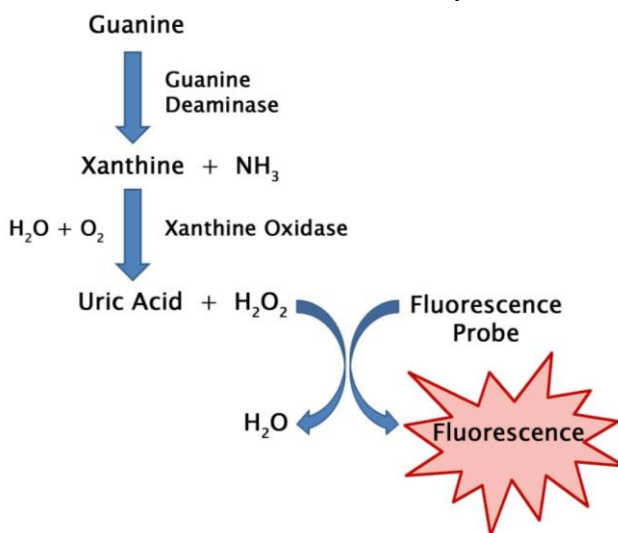

Figure 1. Guanine Assay Principle.
Cell Biolabs' Guanine Assay Kit measures total guanine within biological samples. Guanine is converted into xanthine by guanine deaminase. Then xanthine is converted to uric acid and hydrogen peroxide by xanthine oxidase (XO). The resulting hydrogen peroxide is then detected with a highly specific fluorometric probe. Horseradish peroxidase catalyzes the reaction between the probe and hydrogen peroxide, which bind in a 1:1 ratio. Samples are compared to a known concentration of guanine standard within the 96-well microtiter plate format. Samples and standards are incubated for 15 minutes and then read with a standard 96-well fluorometric plate reader (Figure 1).